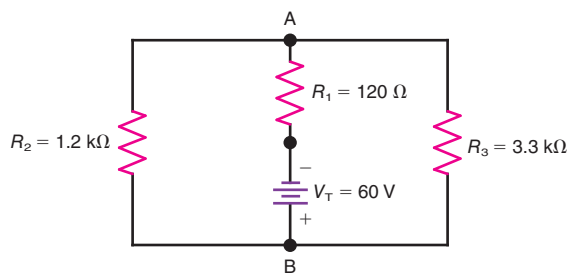

Figure 7-26
7.13 In Fig. 7-26, solve for R_T , I_1 , I_2 , I_3 , V_1 , V_2 , V_3 , and the voltage, V_{AB} .